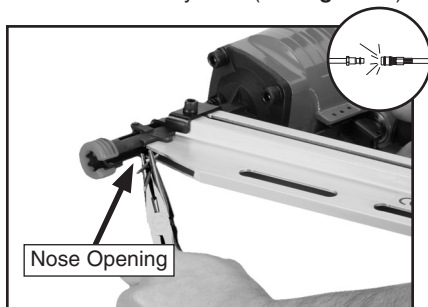

Figure 11. Nose opening for clearing a jammed nail.
4. Locate the opening in the underside of the nailer safety nose (see **Figure 11**).